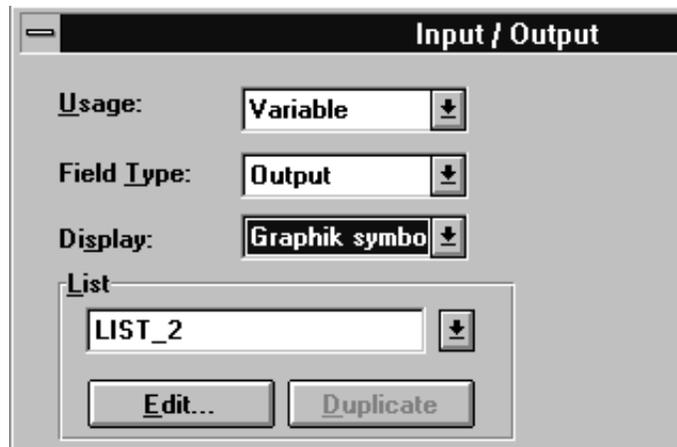

Figure 7-7 Selecting Graphic Symbols for Graphic Lists
2. In the *Input/Output* dialog, select *Display:* to read *Graphic Symbol*. Figure 7-7 shows the dialog box with the selection. Click at *List* on the *Edit* button.